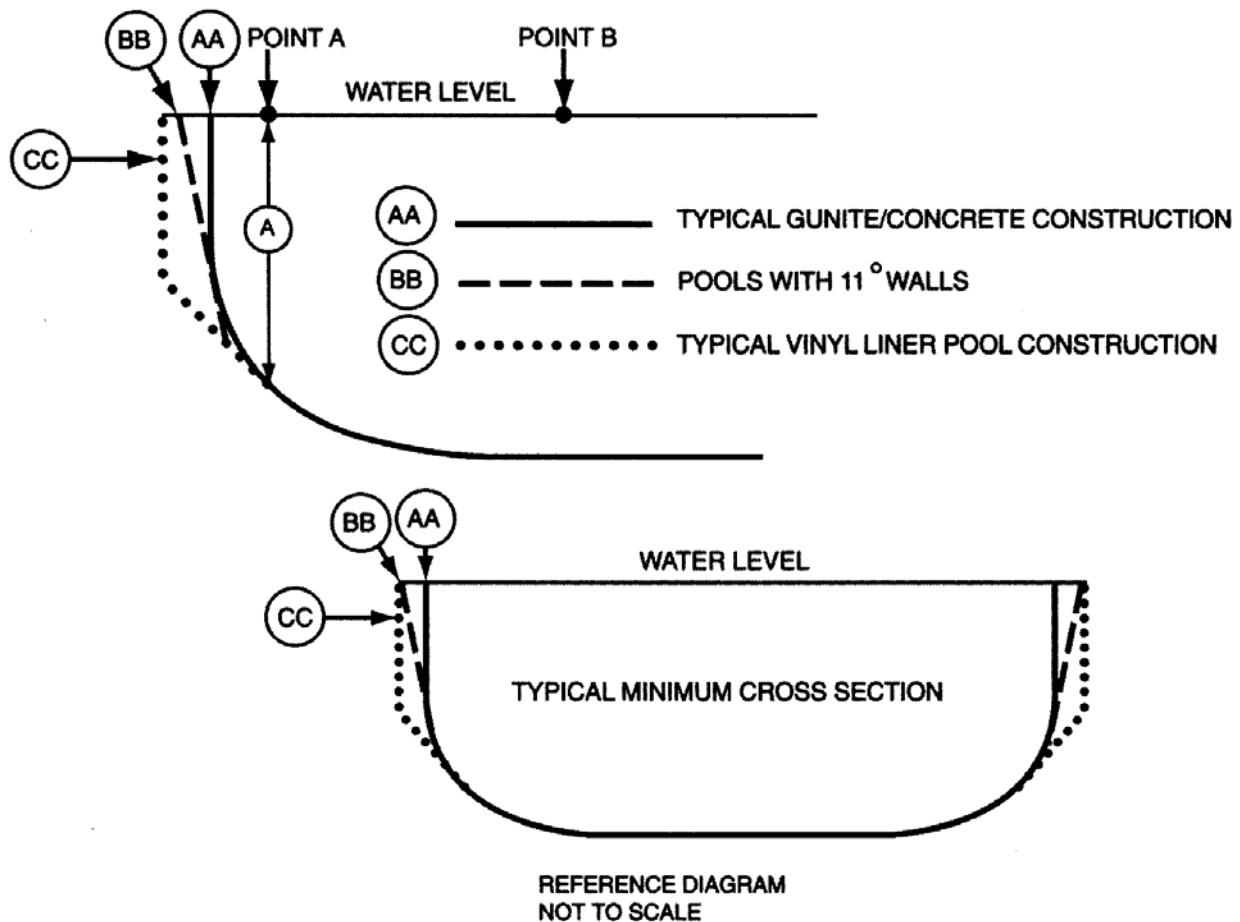

Figure 2- Typical pool design configurations
5.3.2 As shown in Fig. 2, at the depths of (a) and (b), the walls are permitted to join the floor.